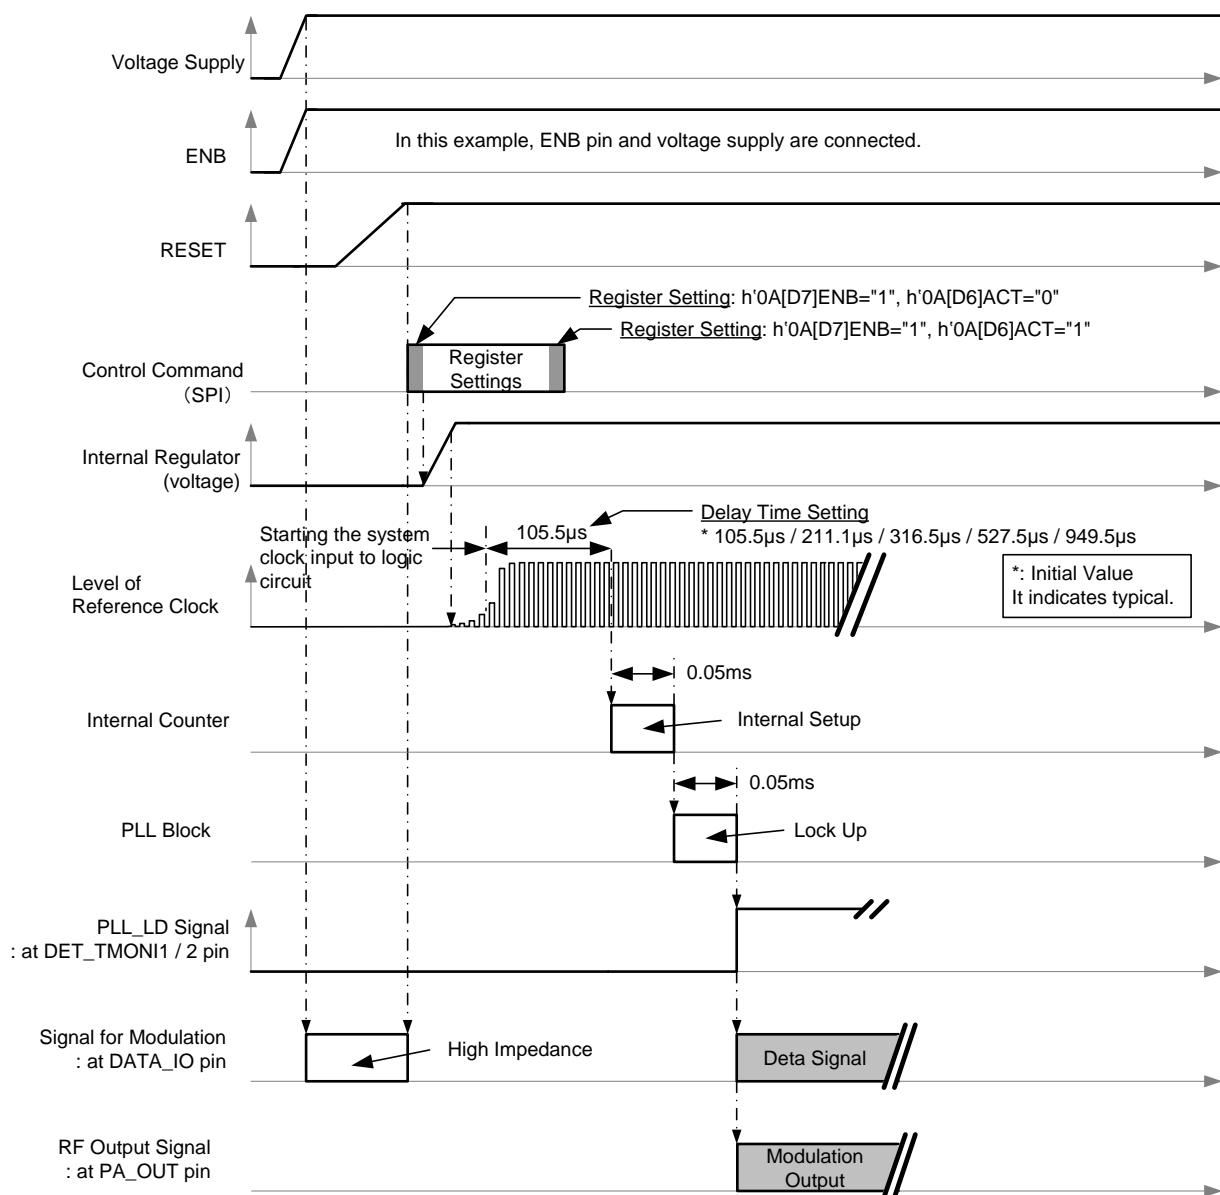

Fig 6-30 Example of Boot Sequence Timing Chart (SPI Mode / TX)
The following Fig 6-30 shows status transition from Battery Saving/Standby to TX-Run.
- To shorten the boot sequence of this IC, there is other way to be able to moving to Run without going through Standby. In this method, firstly set ENB pin = "H", h'0A [D7] ENB = "1" and h'0A [D6] ACT = "1", then set other registers. But in this way, if the internal setup and the register setting are overlapped each other, unexpected operation may occur. To avoid above, make the SPI speed too fast enough to communicate, or select the previous way as in Fig 6-30.